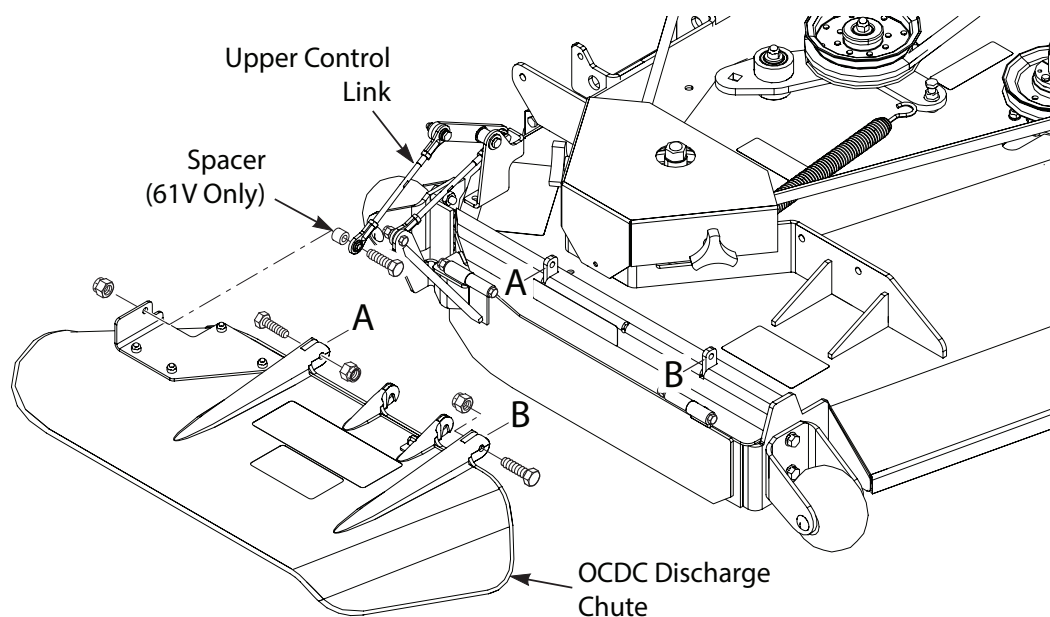

Figure 3-41. OCDC Discharge Chute Installation
7. Install the OCDC discharge chute to the cutter deck. Secure using two (2) 5/16-18 x 1-3/4" bolt and two (2) 5/16-18 elastic stop nuts. See Figure 3-41, Page 27.
9. Secure the upper control link to the OCDC discharge chute using one (1) 5/16-18 x 1-1/2" bolt and one (1) 5/16-18 elastic stop nut. See Figure 3-41, Page 27.